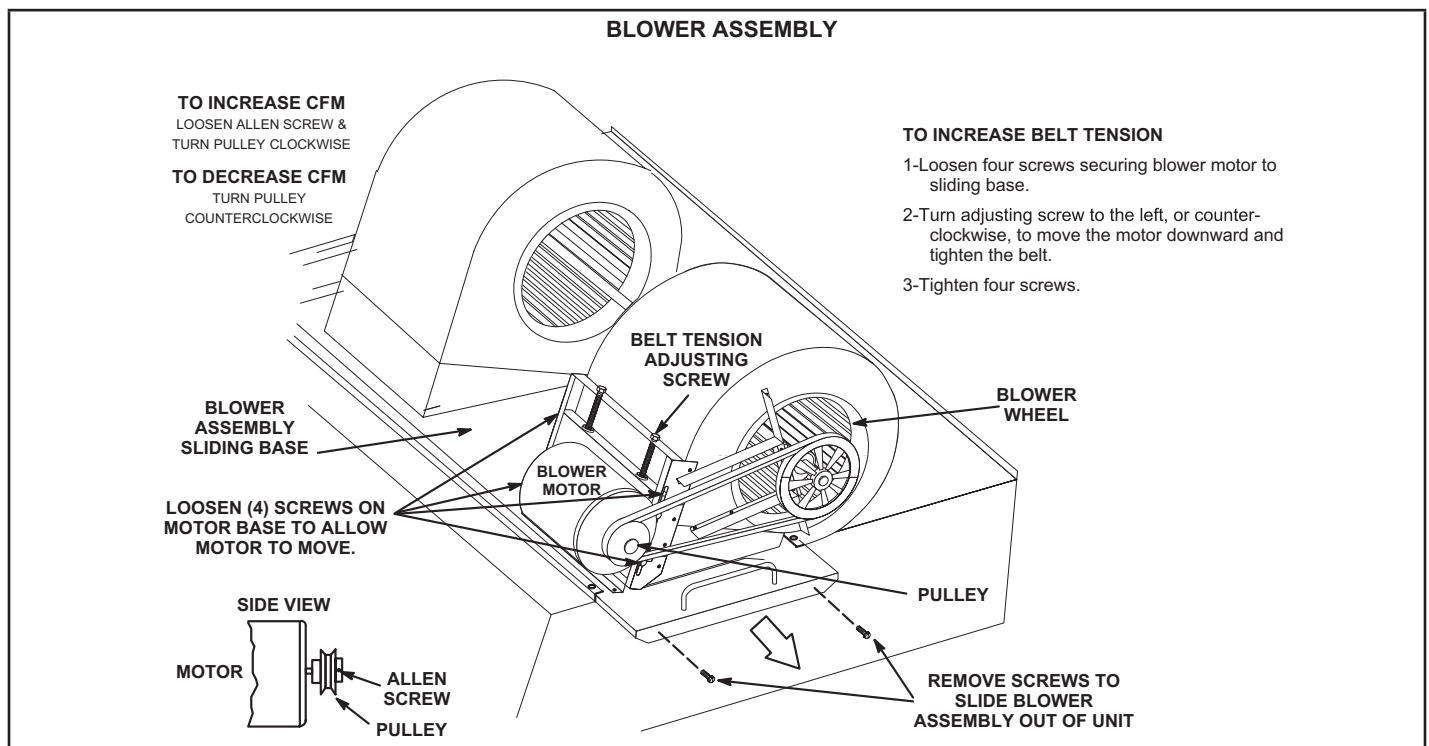

FIGURE 8
The blower compartment in KCC180S-300S units is located between the evaporator coil and the compressor / control section on the opposite side of the condenser coil. The blower assembly is accessed by removing the screws on either side of the sliding base. The base pulls out as shown in figure 8.
The blower assembly is secured to a sliding base which allows the entire assembly to be pulled out of the unit. See figure 8.
- 5 - The RPM can be adjusted at the motor pulley. Loosen Allen screw and turn adjustable pulley clockwise to increase RPM. Turn counterclockwise to decrease RPM. See figure 8.
- 1 - Loosen four bolts securing motor base to mounting frame. See figure 8.